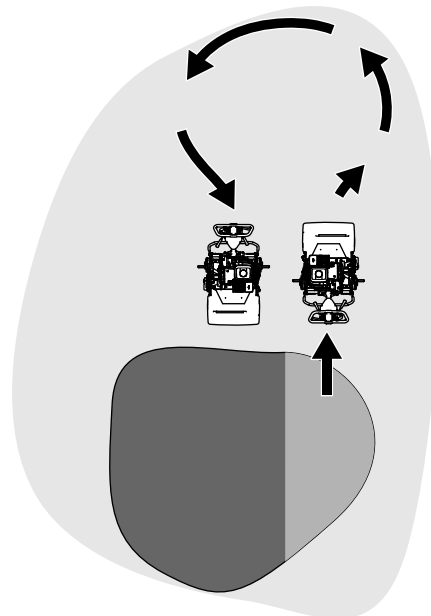

Figure 21
- Turn the machine off the green by raising the cutting reel (pushing the handle down) and performing a tear-shaped turn on the traction drum (Figure 21).
1. Locate the traction-engagement lever on the transmission gearbox (Figure 21).